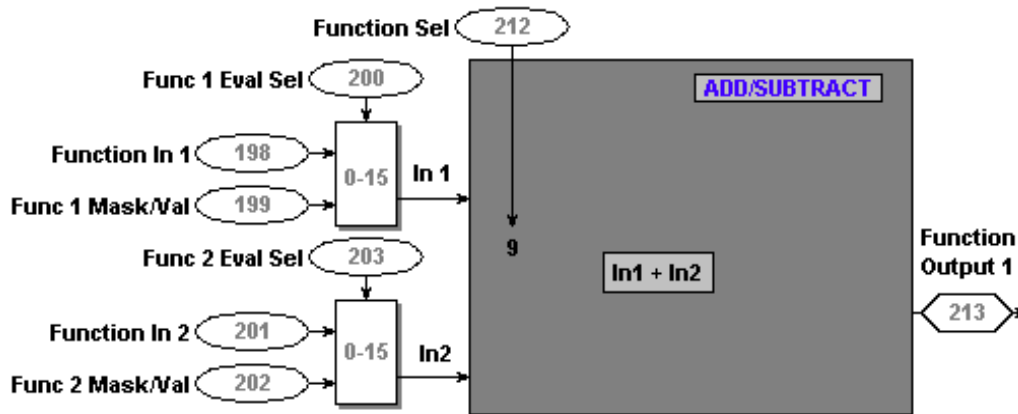

Figure 1
The Add/Subtract function block is used to configure the drive with a signed addition circuit for two "function" inputs. To configure the drive with the Add/Subtract circuit the [Function Sel] parameter (212) must be programmed appropriately. Refer to figure 1.